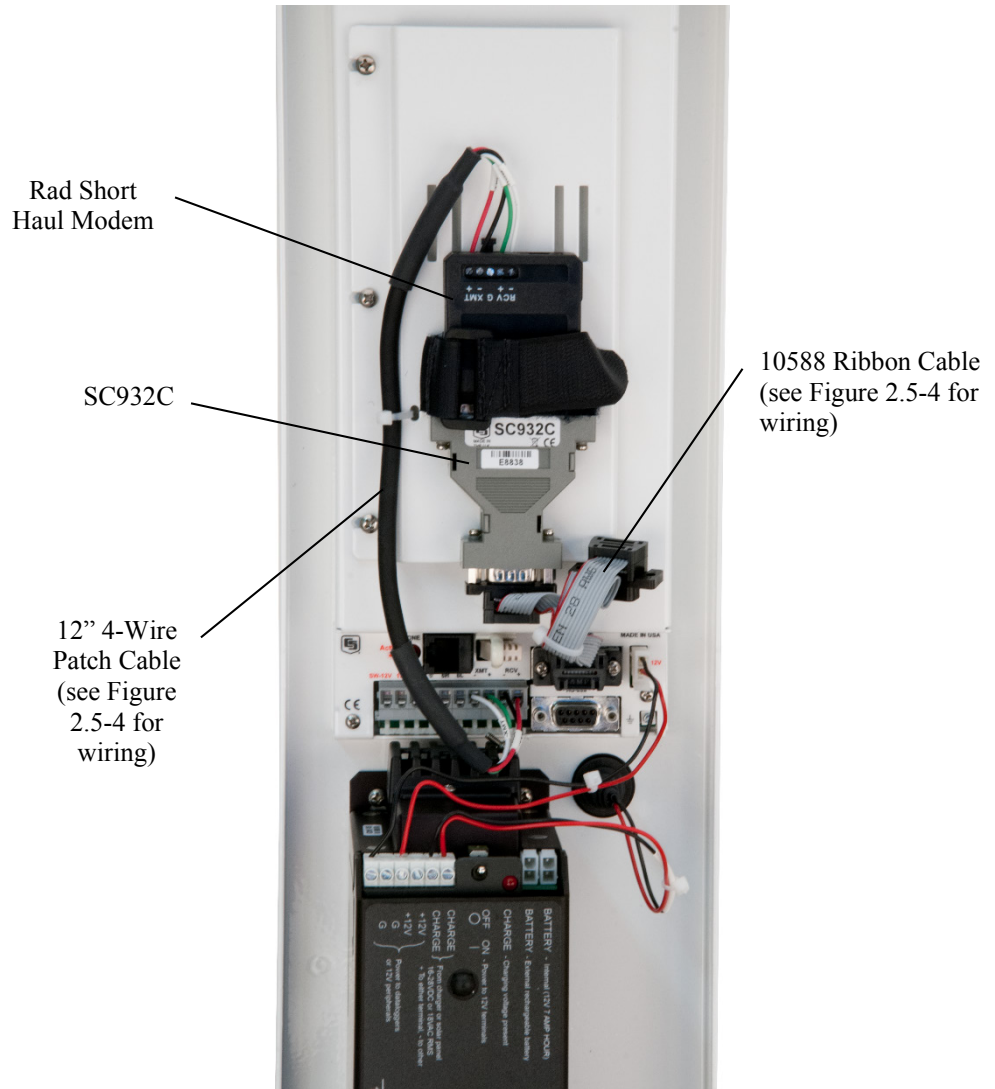
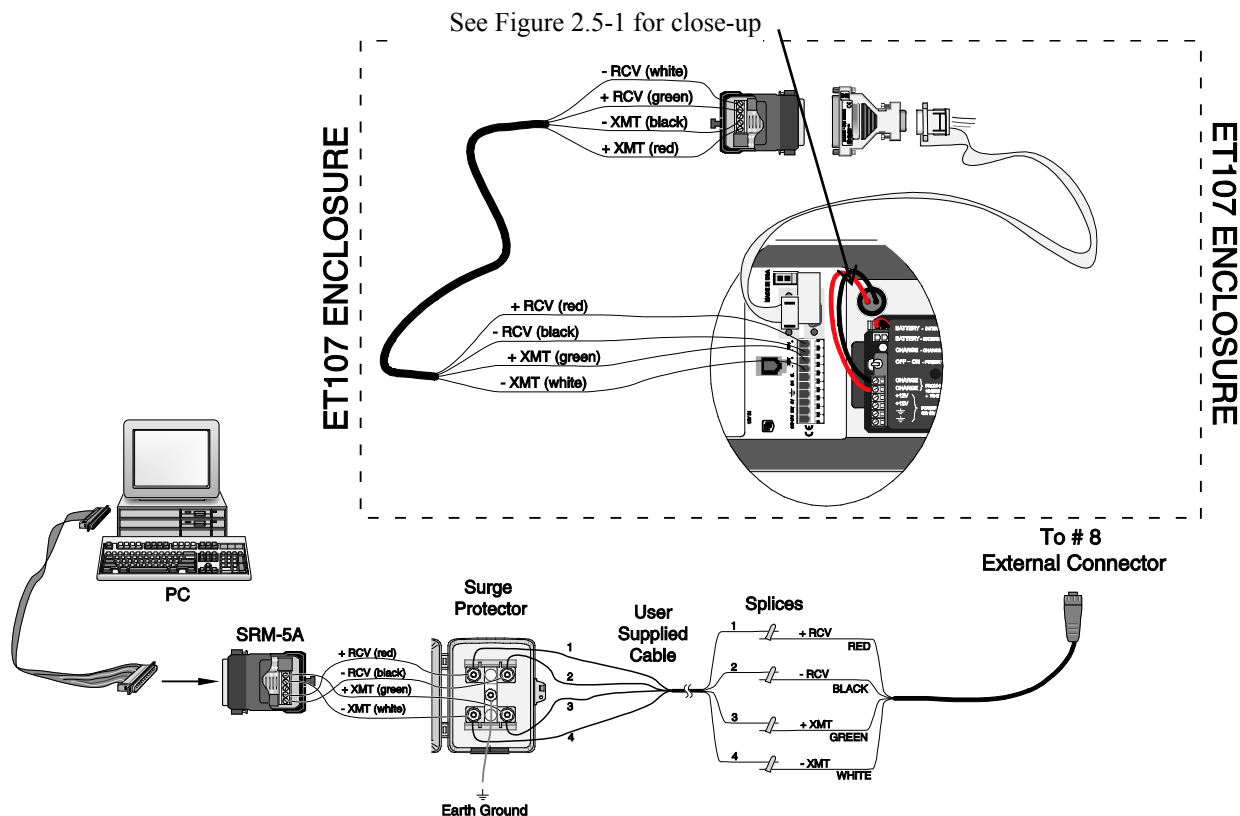

FIGURE 2-25. Short-haul modem mounting and connection
FIGURE 2-26. Short-Haul Modem Wiring Diagram
Install the short-haul modems as shown in FIGURE 2-25 and FIGURE 2-26.
3. Connect the SC932C 9-pin port to the internal ET Enclosure CS I/O port with the pn 10588 Ribbon Cable supplied with the ET Enclosure (see FIGURE 2-25).